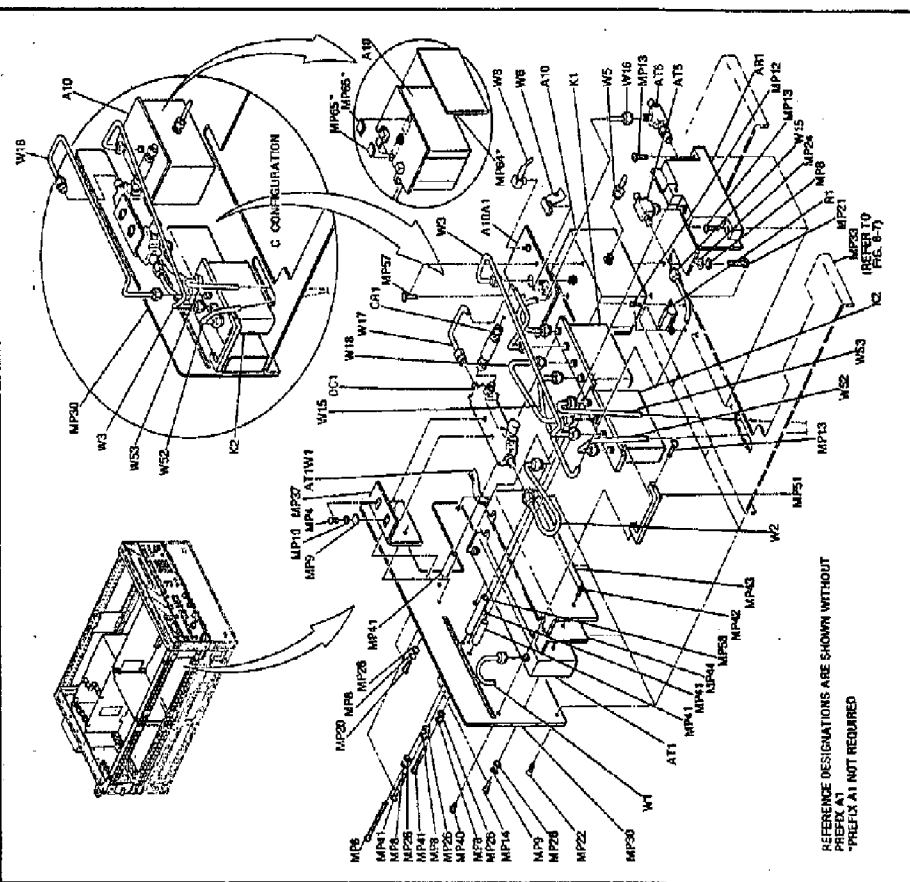

Figure 8-304. A1 RF Output Assembly - YTM Relays and Attenuator
- q. Refer to Figure 8-304 for the following steps.
- u. Refer to Figure 8-304 for the following steps.
- c. Refer to Figure 8-304 for the following steps.
- d. Refer to Figure 8-304 for the following steps.